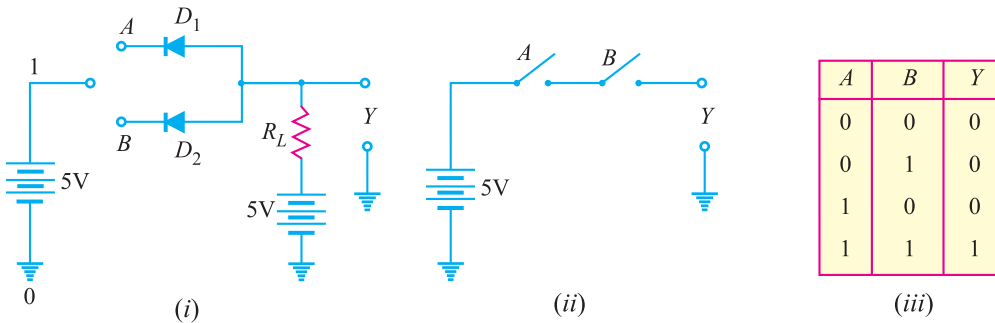

Fig. 26.8
AND gate operation. Fig. 26.8 (i) shows one way to build a 2-input AND gate while *Fig. 26.8 (ii) shows its simplified schematic diagram. There are only four input-output possibilities.
(i) When both A and B are connected to ground, both the diodes (D_1 and D_2) are forward biased and hence they conduct current. Consequently, the two diodes are grounded and output voltage is zero. In terms of binary, when $A = 0$ and $B = 0$, then $Y = 0$ as shown in truth table in Fig. 26.8 (iii).
* Note that two switches used to represent the OR function were connected in parallel. If the switches are connected in series [See Fig. 26.8 (ii)], AND function is obtained. The output is high if both the switches are closed. The output will be low if either switch is open.